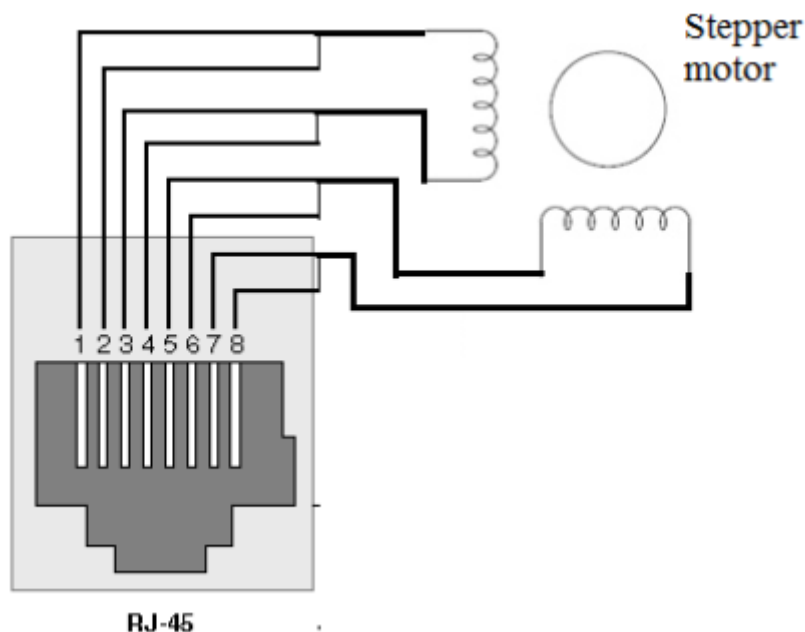

Fig. 6a
3.2 Connect the motors with standard cables to CS as shown in Fig. 6a